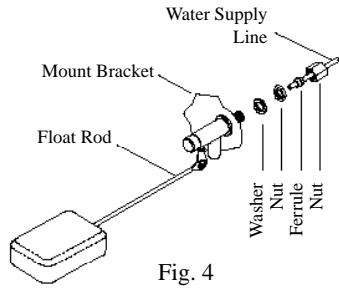

Fig. 4
- **Float valve.** Install the float valve to the mount bracket in the cooler (Fig. 4) and attach water supply line. Note: 75/85 and 95 units come with the float valve installed. For the other models, the float is purchased separately.